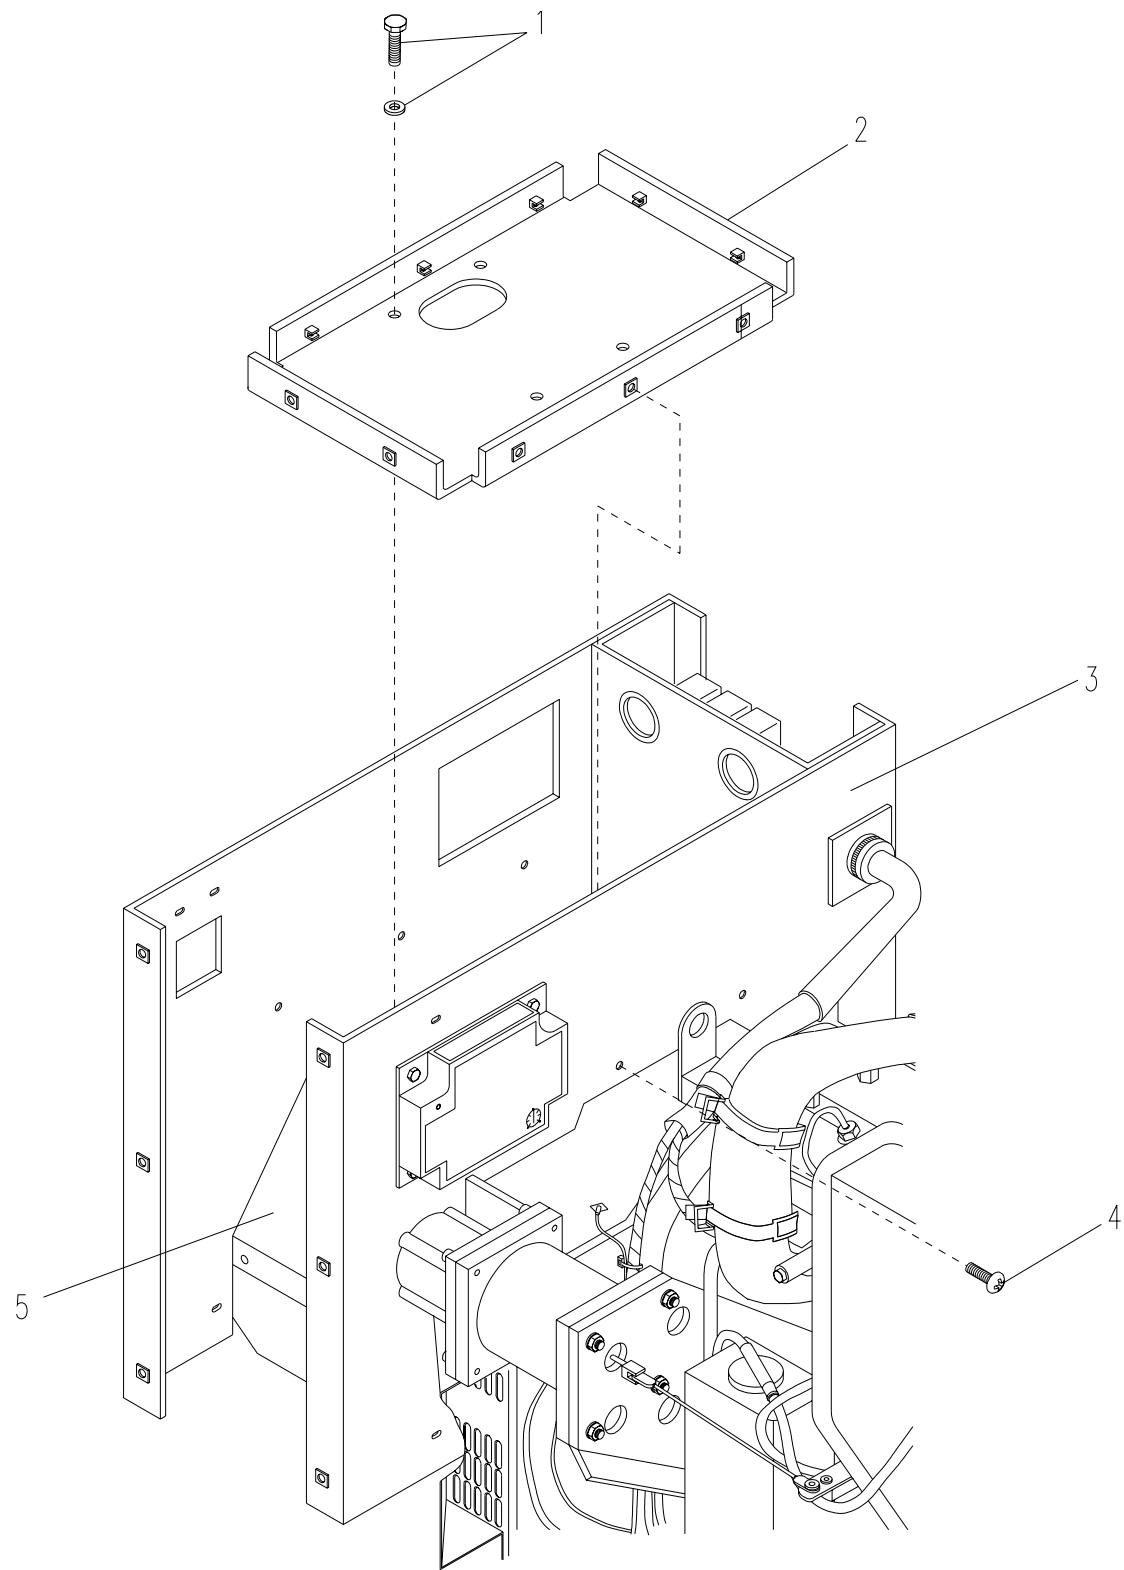

Figure 5-11. Contactor Plate
- a. Remove ten screws, or slotted hex-head bolts, lock washers and washers (SICPS) (4, Figure 5-11) securing contactor plate (2) to generator housing (3).
- b. Remove four bolts and lock washers (1) securing contactor plate (2) to generator (5). Remove contactor plate (2).
- c. Install contactor plate (2) on generator (5) using four bolts and lock washers (1).
- d. Secure contactor plate (2) to generator housing with ten screws, or slotted hex-head bolts, lock washers and washers (SICPS) (4).